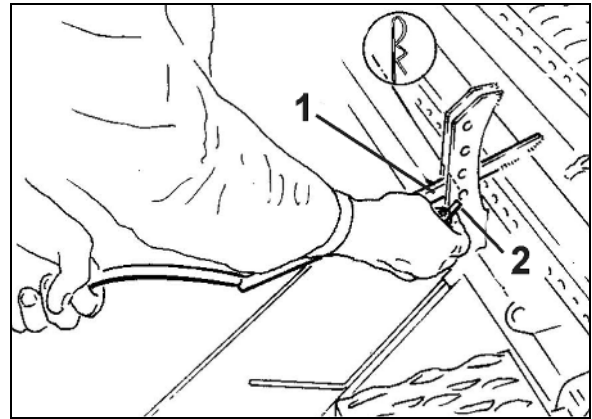

Fig. 94
2. Tension the lever (Fig. 94/1) with the aid of the calibration crank.
3. Insert the pin (Fig. 94/2) into a hole underneath the lever.